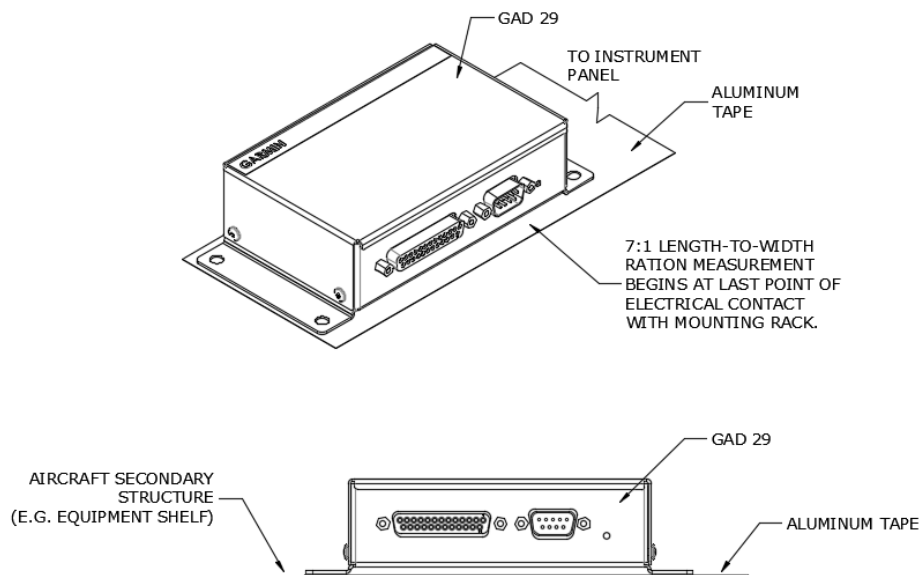

Figure 4-61 GAD 29/29B Aluminum Tape Installation (GAD 13 similar)
15. Secure the aluminum tape to the GAD 29/29B, GAD 13, or mounting rack as shown in Figure 4-61.